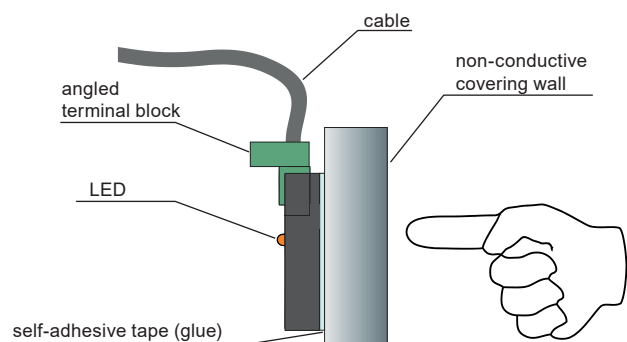

Fig. 1: CTS-41_-0 sensor installation
- Install the sensor on the back side of the covering wall in a place which is intended for finger contact (see Fig. 1 and 2). The sensor can be installed behind a wall of an object made of non-conductive material (such as wood, chipboard, glass, ceramics, plasterboard, etc.). Maximum thickness of the covering wall is 30 mm.